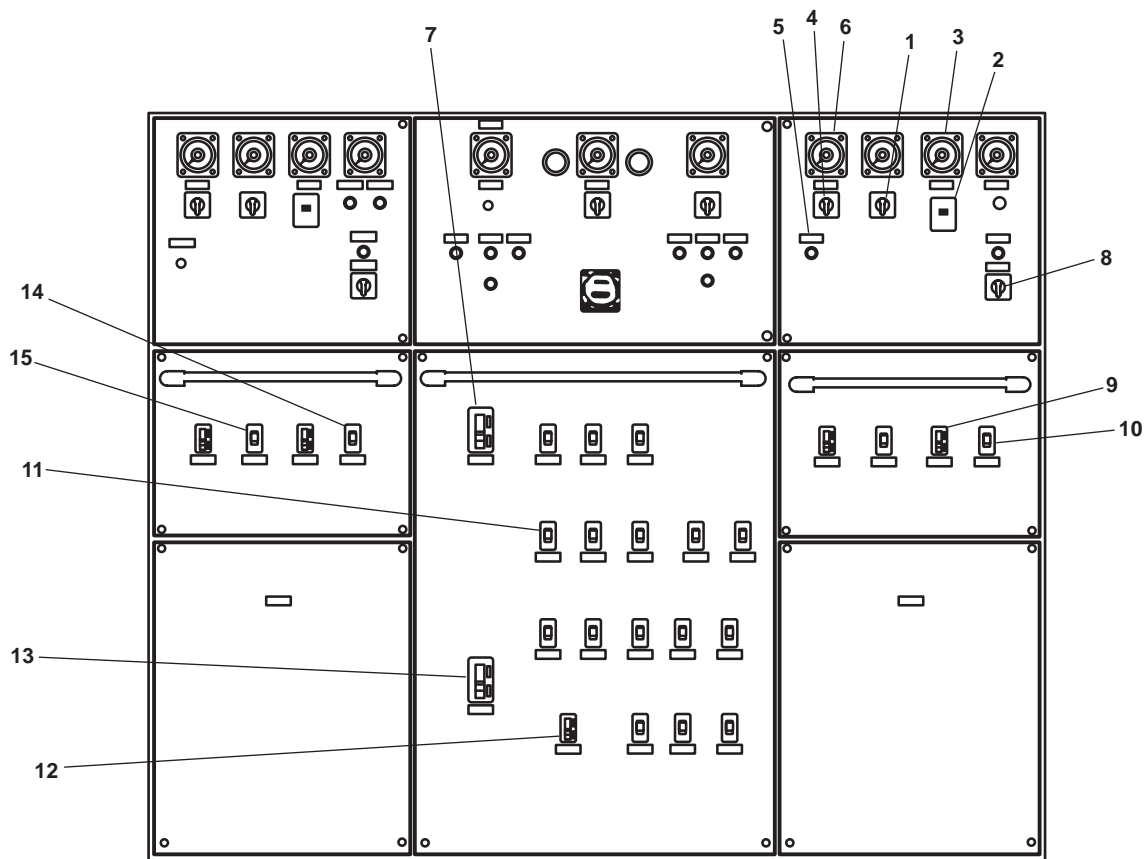

Figure 13. Main Switchboard
- (1) Set the AMMETER switch (figure 13, item 1) to position 1.
- (2) Toggle the speed control switch for GEN 1 GOVERNOR (figure 13, item 2) until the HERTZ (frequency) meter (figure 15, item 3) reads 60 hertz.
- (3) Turn the BUS GEN. 1 switch (figure 13, item 4) to the 1-2 position.
- (4) Rotate the GENERATOR 1 AUTO. VOLT. RHEO (figure 13, item 5) to read 440 on the A-C VOLTS meter (figure 13, item 6).
- (1) Set the SHORE POWER CIRCUIT BREAKER (figure 13, item 7) to the OFF position.
- (2) Set the following circuit breakers to the ON position:
- (a) GEN #1 CKT. BKR. (figure 13, item 8)
- (b) 3-25 KVA 1Ø XFMRS (figure 13, item 9)
- (c) ENG. RM. SUPPLY FAN #1 (figure 13, item 10)
- (d) ENGINE ROOM POWER PANEL NO.1 (figure 13, item 11)
- (e) ENG. RM. EXH. FAN #1 (figure 13, item 12)
- (f) BUS TIE CIRCUIT BREAKER. (figure 13, item 13)
- (g) ENG. RM. EXH. FAN #2 (figure 13, item 14)
- (h) ENG. ROOM. SUPPLY FAN #2 (figure 13, item 15)